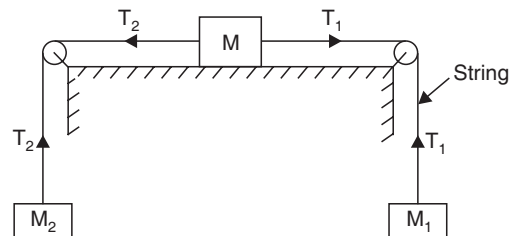

Fig. 8.15
**Example 8.23.** A string passing across a smooth table at right angle to two opposite edges has two masses  $M_1$  and  $M_2$  ( $M_1 > M_2$ ) attached to its ends hanging vertically as shown in Fig. 8.15. If a mass  $M$  be attached to the portion of the string which is on the table, find the acceleration of the system when left to itself.
**Sol.** Refer to Fig. 8.15.